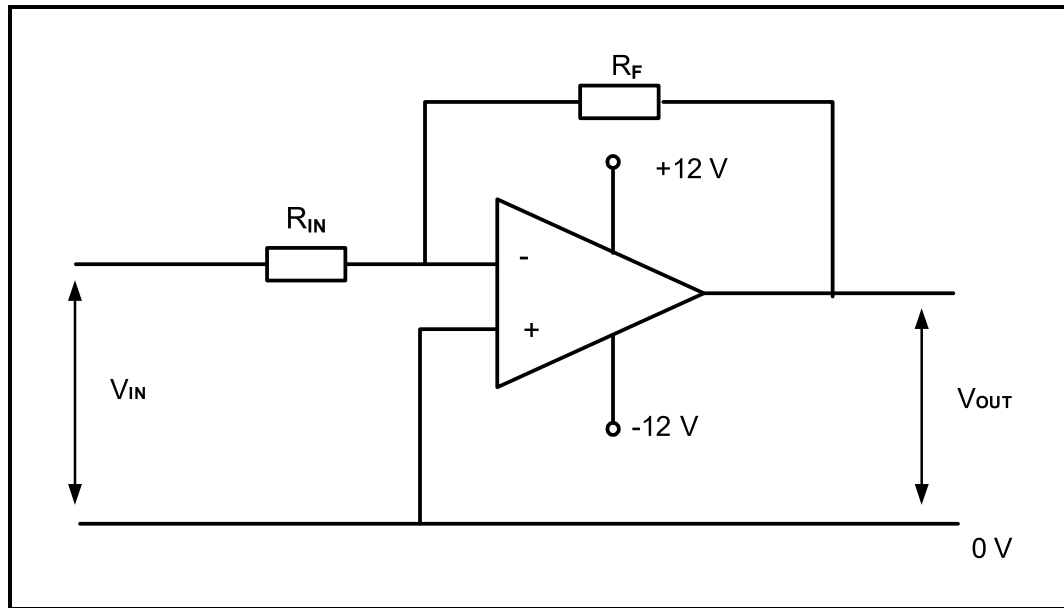

FIGURE 4.7: INVERTING OPERATIONAL AMPLIFIER
4.7 Refer to FIGURE 4.7 below and answer the questions that follow.
- 4.7.2 State the principle according to which the circuit in FIGURE 4.7 above operates to have a zero volt at the inverting input. (1)